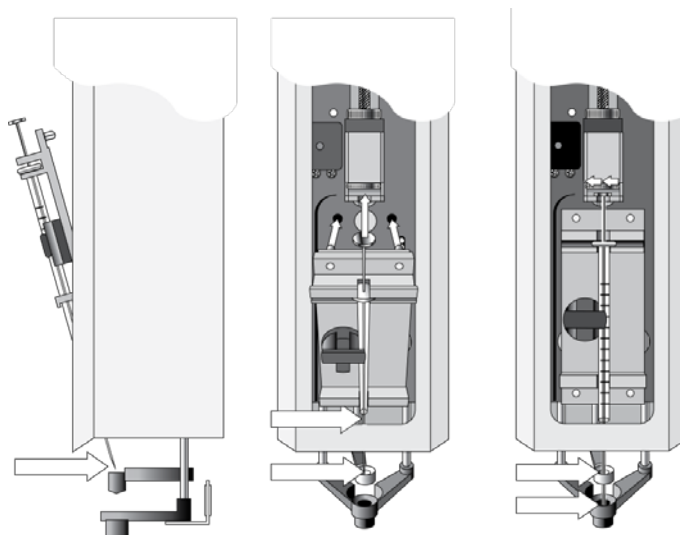

Figure 39. Installing and Removing a Syringe for Liquid Injections
5. Move the syringe, installed in the syringe adapter, partially into the Injection Unit. First, guide the needle into the upper needle guide and then into the lower needle guide (See Fig. 39);